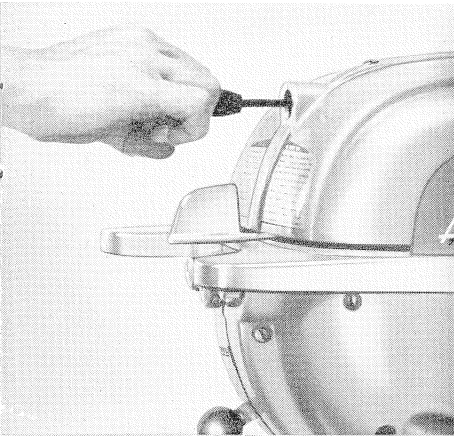

Figure 15
5. Pull starter grip to start motor (Fig. 15).